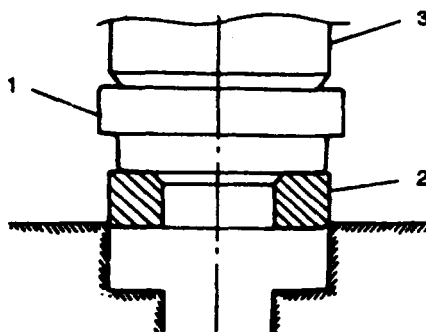

FIGURE 3-75. Valve Seat Insert Installation
- (1) Place valve seat insert in position and carefully place attachment (1, FIGURE 3-75), having a smaller OD than valve seat insert, on valve seat insert (2).